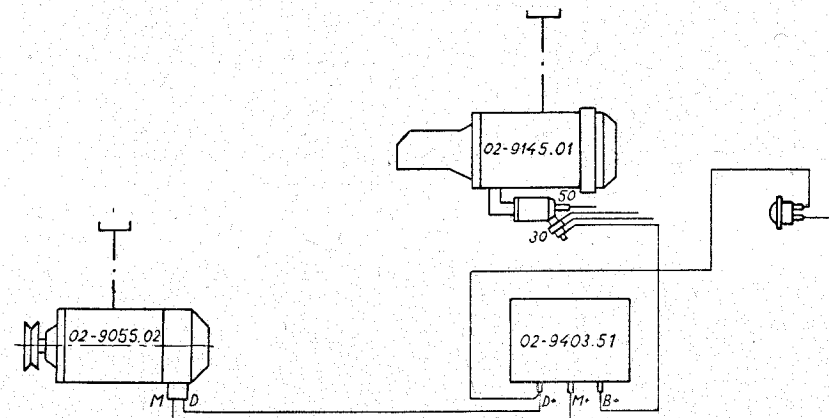

Fig. 77.
- d) From Serial No. 125-45100 of the Zetor 25 A tractor and from Serial No. 225-30633 of the Zetor 25 K tractors onwards: dynamo model 02-9055.02, Part No. 1302.05 and voltage regulator model 02-9403.51, Part No. 4340.29 - for wiring diagram see Fig. 77.